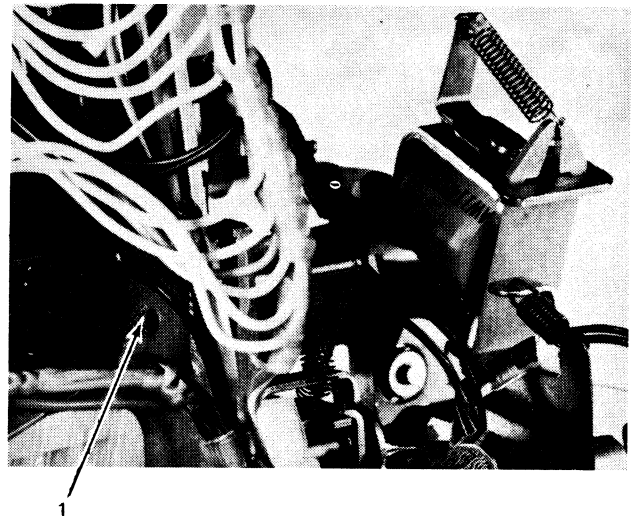

Figure 4-60. Keyboard Removal (Keyboard Roll Pin, Printer Tilted Up)
17. Remove the roll pin (No. 1, Figure 4-60).